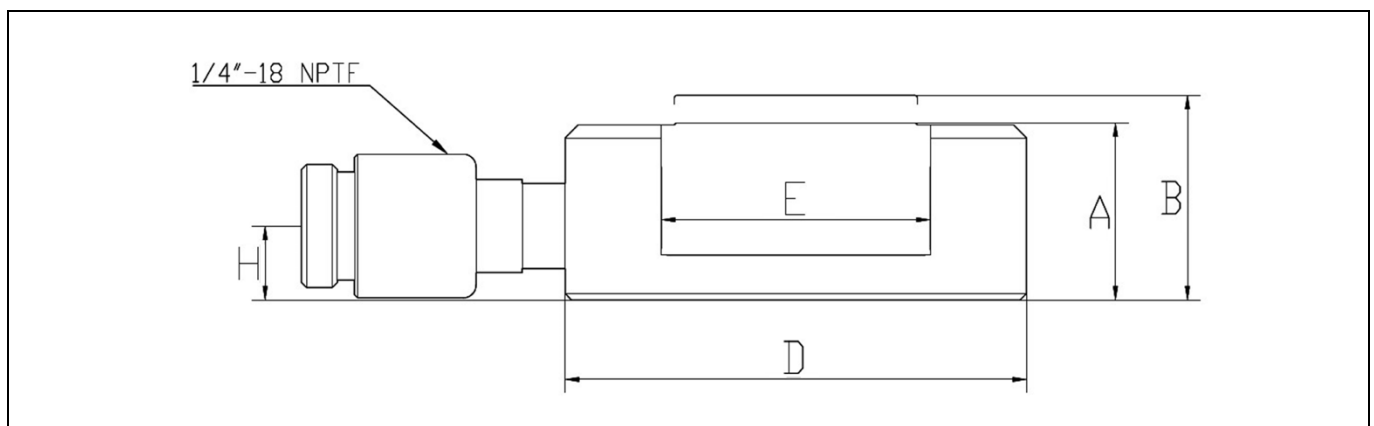

Figure 3, Dimensions – CULP-Series
10.1 Dimensions – Imperial (see Figure 3)
10.2 Dimensions – Metric (see Figure 3)